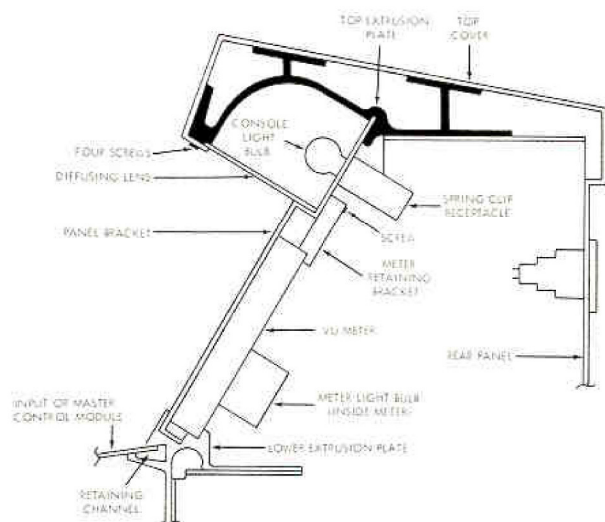

Figure 4. Meter Panel Assembly Diagram
- Step 1. Remove the four screws which secure the front of the top cover (see Figure 4).
- Step 5. Slip the rear edge of the diffusing lens over the panel bracket as shown in Figure 4. Pull the top cover forward just enough to permit the front edge of the lens to be raised into position, then push the top cover to capture the edge of the diffusing lens.
- Step 6. Install the repaired or replacement VU meter in the channel of the lower extrusion plate and position it against the meter panel (see Figure 4).